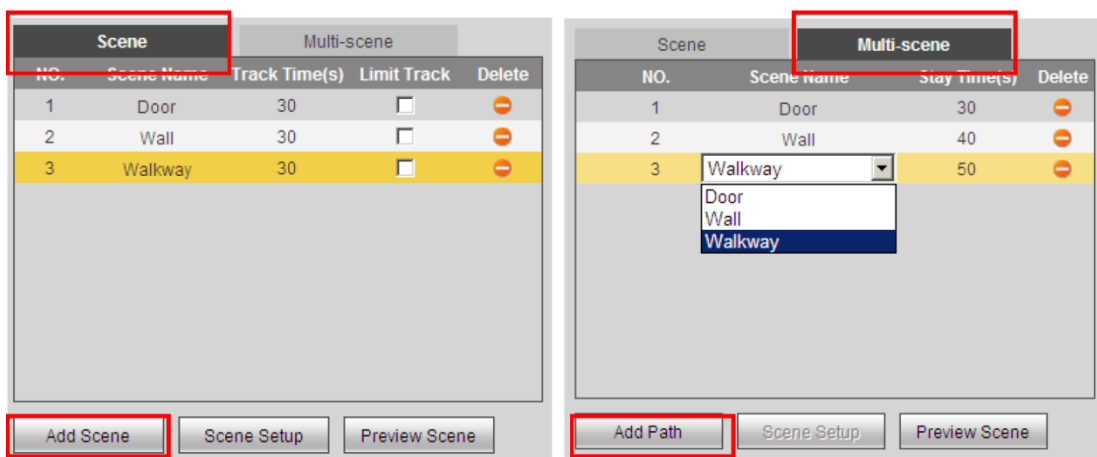

Figure 22-7
3) Set scene. In the following figure, you can add the path for the multiple-scene track. The stay time is 30s, 40s, and 50s respectively. See Figure 22-7. Click the save button to complete the setup. You can see system prompts a dialogue box “Save succeeded” to remind you.